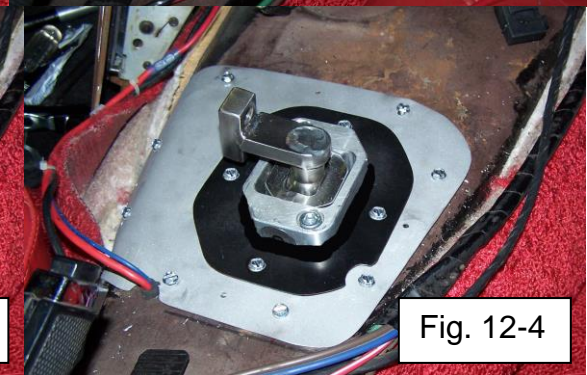

Fig. 12-4
- Apply bead of the sealant around perimeter of the shift tower to complete the tunnel patch. See Fig.12-4.